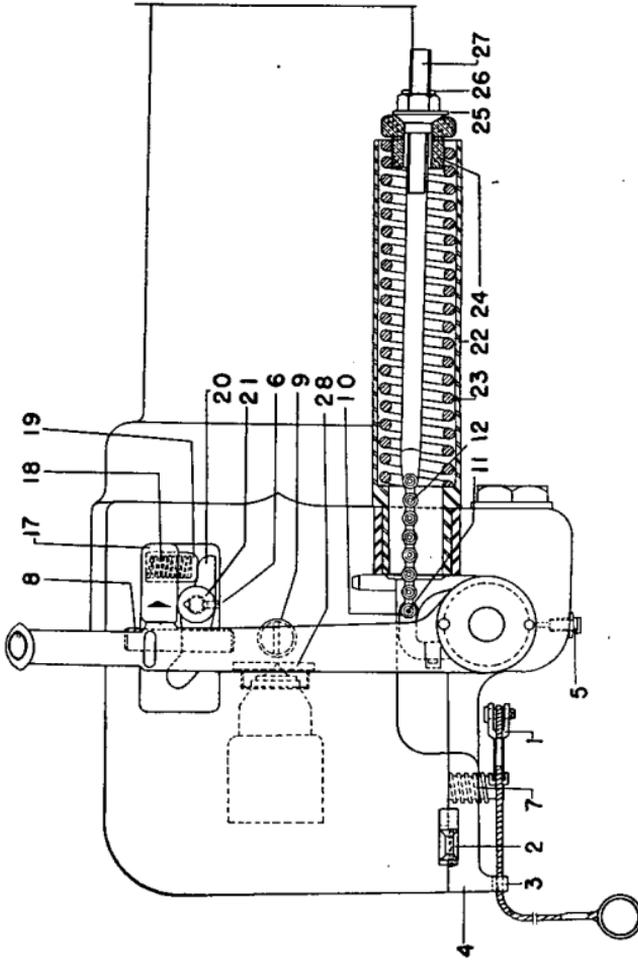

FIGURE 6.—Breech mechanism, 3-inch anti-aircraft gun M3, right side elevation.
■ 42. LATCH PLATE (fig. 6).—Unscrew the latch bolt set screw (6) and unscrew the latch bolt (21). This will release the latch (20) and spring (18) in spring cup (19) from the latch plate.
■ 43. BREECHBLOCK.—*a.* Remove one of the cap screws from the breech lamp bracket, loosen the other cap screw, and swing the lamp assembly clear of the breech recess. Unscrew plugs (5) (fig. 7) and remove extractor springs and plungers (6) and (9). Screw an eyebolt in the top of the breechblock for use in lifting the block. Open the breech and insert a pin or punch in the opening in the spring piston rod (27) (fig. 6) at the rear face of the closing spring cylinder (22), thereby releasing the tension of the spring on the breechblock. (See note below.) Screw in the clutch (11) (fig. 8) and close the breech. Remove the cotter pin which retains the chain terminal and unhook the chain from the operating shaft.
locating lugs are disengaged. Remove the split pin from the lock plate key (2) (fig. 6) and drive out the key. Remove the lock plate (4).
e. The bushing (28) (fig. 6), which is screwed very tightly in the front face of the breechblock, is assembled during manufacture and will not be removed by the using service personnel.
NOTE.—If it is desired to disassemble the closing spring cylinder mechanism, do not insert pin in the spring piston rod. With breech closed unscrew piston rod nut (25) (fig. 6) and withdraw spring piston (24). The closing spring may then be removed from the front and the spring piston rod from the rear.
g. Attach the chain terminal to the operating shaft. (In case the closing spring assembly has been disassembled, place the closing springs (23) (fig. 6) in the closing spring cylinder (22). Insert the spring piston rod (27) through the spring and spring cylinder from the rear end and attach the chain terminal to the operating shaft. Place the spring piston (24) on the rod and screw the piston rod nut (25) on the rod until the end protrudes through the nut about  $\frac{3}{4}$  inch.)
h. Close the breech and insert the trigger shaft (1) (fig. 6), first placing the spring (7) in position on the trigger shaft. Press the trigger shaft detent handle to the left to allow the trigger shaft to enter, and then allow the detent (1) (fig. 7) to move back into the annular groove in the shaft.
■ 53. LATCH PLATE (fig. 6).—Place the latch spring (18) into the spring cup (19), and hold the parts in position in latch plate (17). At the same time assemble the latch (20) in the plate by forcing the boss on the latch into its seat in the latch plate, holding it in position until the latch bolt (21) can be entered several threads. Screw the latch bolt (21) home and insert the latch bolt set screw (6).